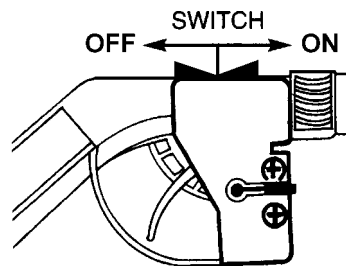

FIG 10
- Place lawn edger on ground in horizontal position (see Fig. 14). Be sure the ignition switch is "ON". Push switch down toward operator to turn ON. Switch located on top of trigger handle (See Fig. 10).
- To stop engine push ignition switch down on top of throttle trigger away from operator (Fig 10).